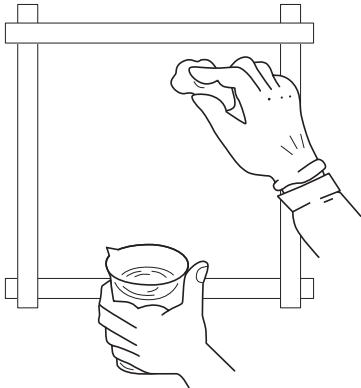
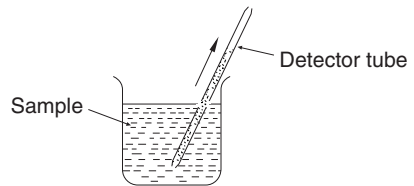

FIG.4.15 SALINITY SAMPLING
FIG.4.16 IMMERSION
(2) Sampling procedure
- ① Mark off a division of 0.25m2 (e.g. 50 × 50 cm) with masking tape after correctly measuring with a measuring scale.
- ② Put on a rubber glove on a hand.
- ③ Put 150 mℓ of deionized water into a polyethylene beaker.
- ④ Wet gauze folded in a proper size with water in the beaker.
- ⑤ Wipe the measuring surface in a parallel direction with wet gauze (see FIG. 4.15). Be sure not to drop water while wiping.
- ⑥ Rinse the gauze in the water in the beaker. Repeat 5 and 6 three times.
- (3) Measuring procedure
- ① Cut off both ends of a chloride ion detector tube with a file. Put the detector tube into the sample water turning the arrow upward (see FIG. 4.16).
- ② Take the detector tube out from the beaker when the water permeates up to the upper end of the reagent. Read the concentration at the end of discolored layer which has been developed by the salinity contained in the sample water.